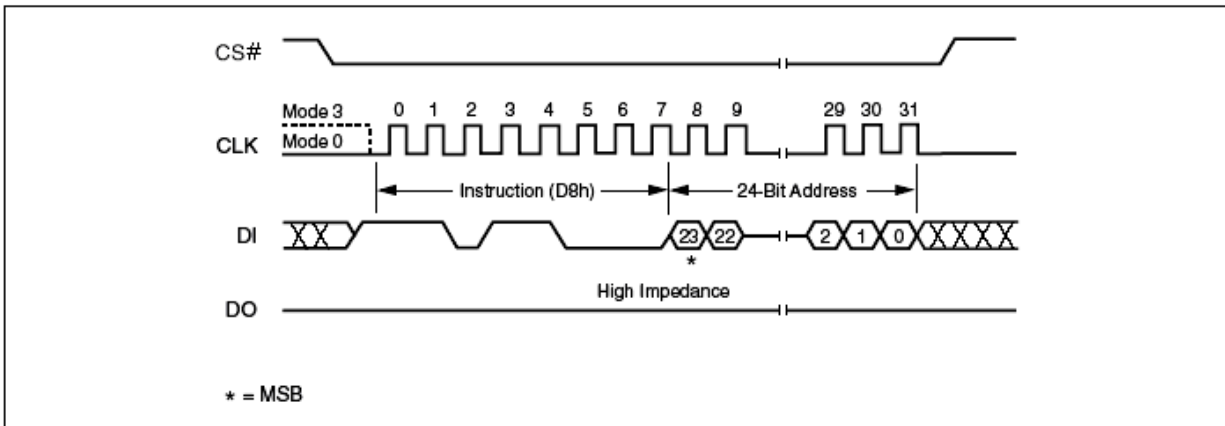

Figure 30. 64K Block Erase Instruction Sequence Diagram
The instruction sequence is shown in Figure 30. Chip Select (CS#) must be driven High after the eighth bit of the last address byte has been latched in, otherwise the Block Erase (BE) instruction is not executed. As soon as Chip Select (CS#) is driven High, the self-timed Block Erase cycle (whose duration is t^{BE}) is initiated. While the Block Erase cycle is in progress, the Status Register may be read to check the value of the Write In Progress (WIP) bit. The Write In Progress (WIP) bit is 1 during the self-timed Block Erase cycle, and is 0 when it is completed. At some unspecified time before the cycle is completed, the Write Enable Latch (WEL) bit is reset.